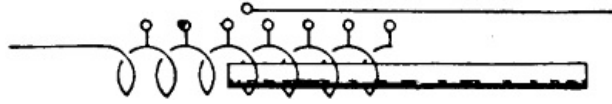

FIGURE 135.
*Reactance Control.*—A reactance, shown diagrammatically in Figure 135, may take the place of the resistance in alternating-current circuits and is preferable because it wastes comparatively little energy. It lowers the voltage over the arc but its operation depends upon a counter e.m.f. which opposes the impressed e.m.f. of the circuit and must be subtracted from the latter. The nature of reactances as well as of transformation, etc., has been fully treated in another work of the authors', entitled, "Alternating Current Theory, Practice and Diagrams" and would carry us too far were it to be discussed in this work. Every reactive coil is made up of copper wire wound upon an iron core and contains both resistance and reactance. So far as the resistance in it is concerned, this causes a waste of energy, but it is always very small. There is also a waste of energy due to the hysteresis and eddy-current losses in the iron, but this is also small.